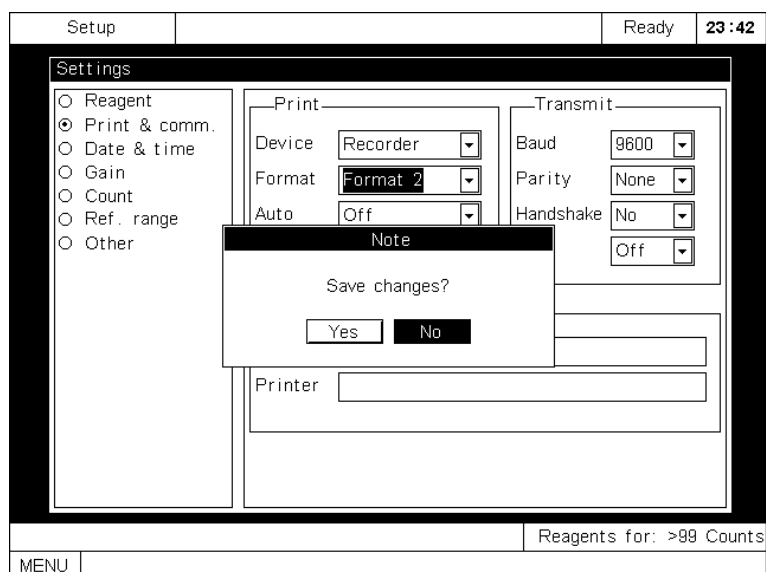

Figure 7-18 Saving changes
- press [MENU] and a dialog box will pop up to remind you to save the changes, as Figure 7-18 shows. Press [] or [] to move the cursor to **Yes** and press [ENTER] to save the changes and exit to the system menu or move the cursor to **No** and press [ENTER] to exit to the system menu without saving the changes.